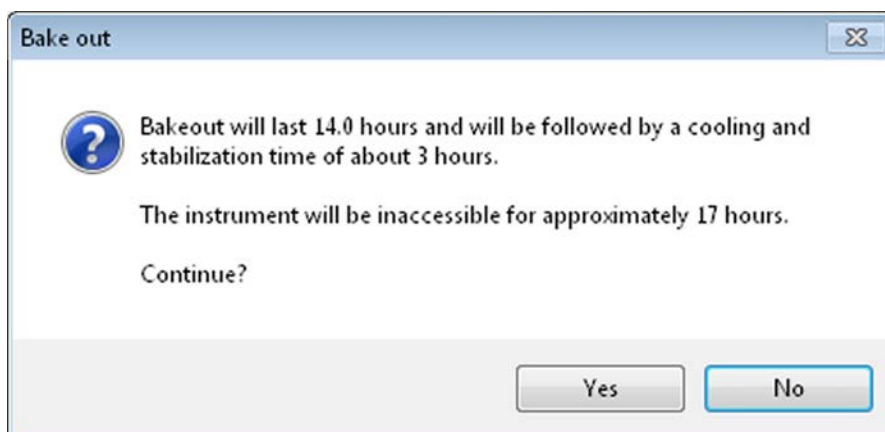

Figure 5-9. Bakeout message box
4. Click **Bake out**. A dialog box shows the duration of the baking procedure. See Figure 5-9. Click **Yes** to confirm the message.